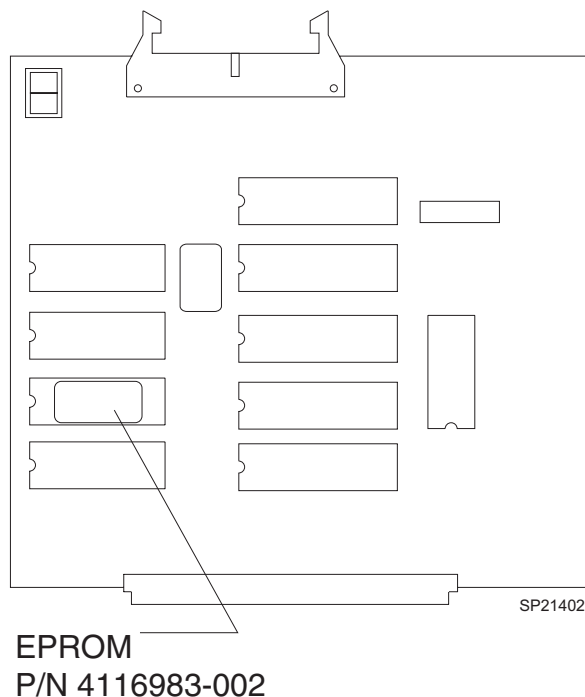

FIGURE 2. CPU2 E-PROM Location
- 2.14 Locate the E-PROM on CPU2. See Figure 2.